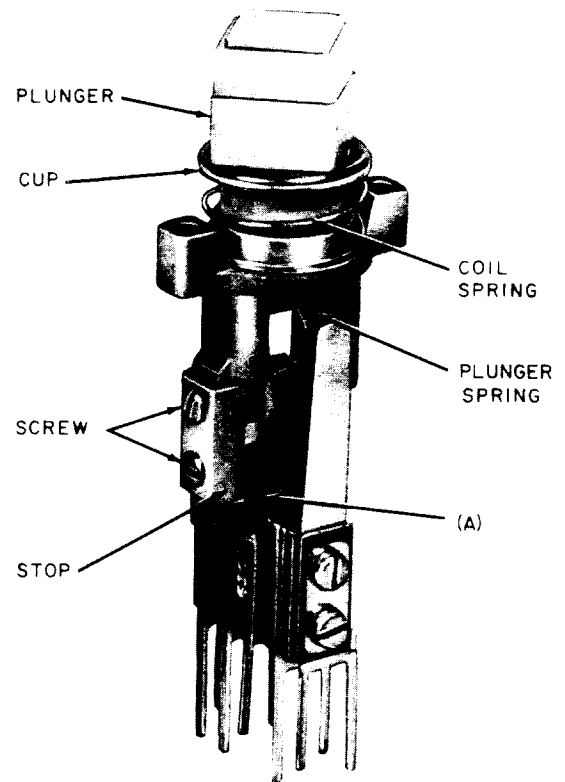

Fig. 4—630-Type Key
- (d) **630-Type Key:** (Fig. 4)—The plunger shall slide without binding and shall not be sluggish in restoring from its depressed position.